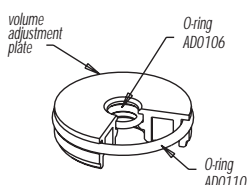

Figure 8
8. Before reinstalling the volume adjustment plate, inspect the seals (Figure 8) for cuts or dirt that may allow leaks. Replace seals if necessary. Lubricate the seals and push the plate carefully down into the shaft, keeping it level. If it gets stuck, remove it, and start over. Be careful not to cut or pinch the seals while reinstalling the volume adjustment plate. When properly installed, the groove (or four side holes in the shaft if the plate is in the highest position) will be barely visible just above the plate.